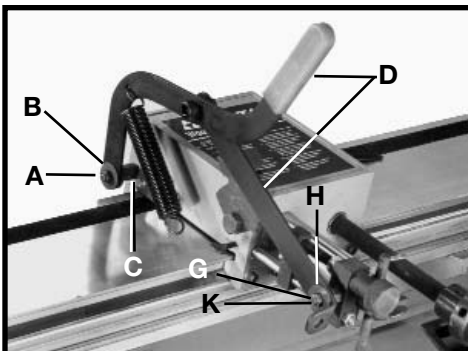

Fig. 40
4. Attach handle assembly (D) Fig. 40 on studs (C) and (K). Fasten with hex nuts (A) and (G) and flat washers (B) and (H) (removed in **STEPS 1** and **3**).